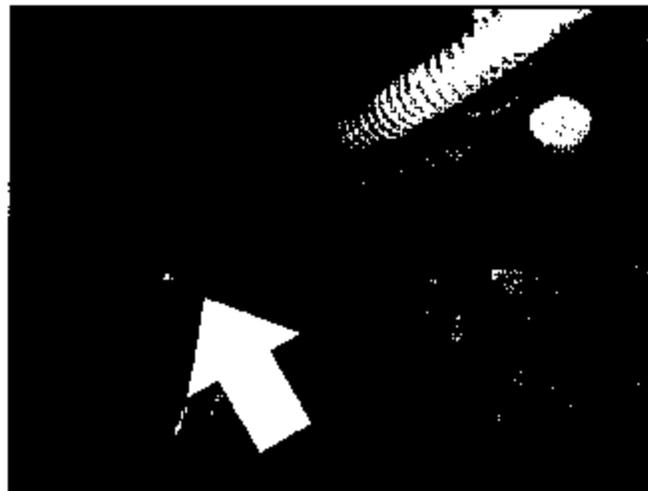

Fig. 2, Inspect the Threaded Section of the Piston Rod (this is an example of a bent rod)
2. Inspect the threaded section of the piston rod where it threads into the jam nut and clevis. See Fig. 2.